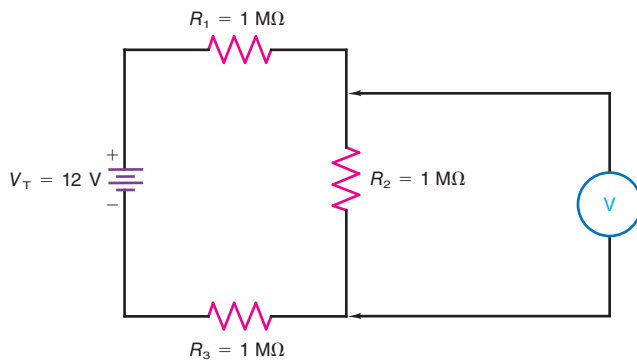

Figure 12-25
- 12.9 Refer to Fig. 12-25. (a) Calculate the dc voltage that should exist across R_2 without the voltmeter present. (b) Calculate the dc voltage that would be measured across R_2 using a $100 \text{ k}\Omega/\text{V}$ analog voltmeter set to the 10-V range. (c) Calculate the dc voltage that would be measured across R_2 using a DMM with an R_V of $10 \text{ M}\Omega$ on all dc voltage ranges.